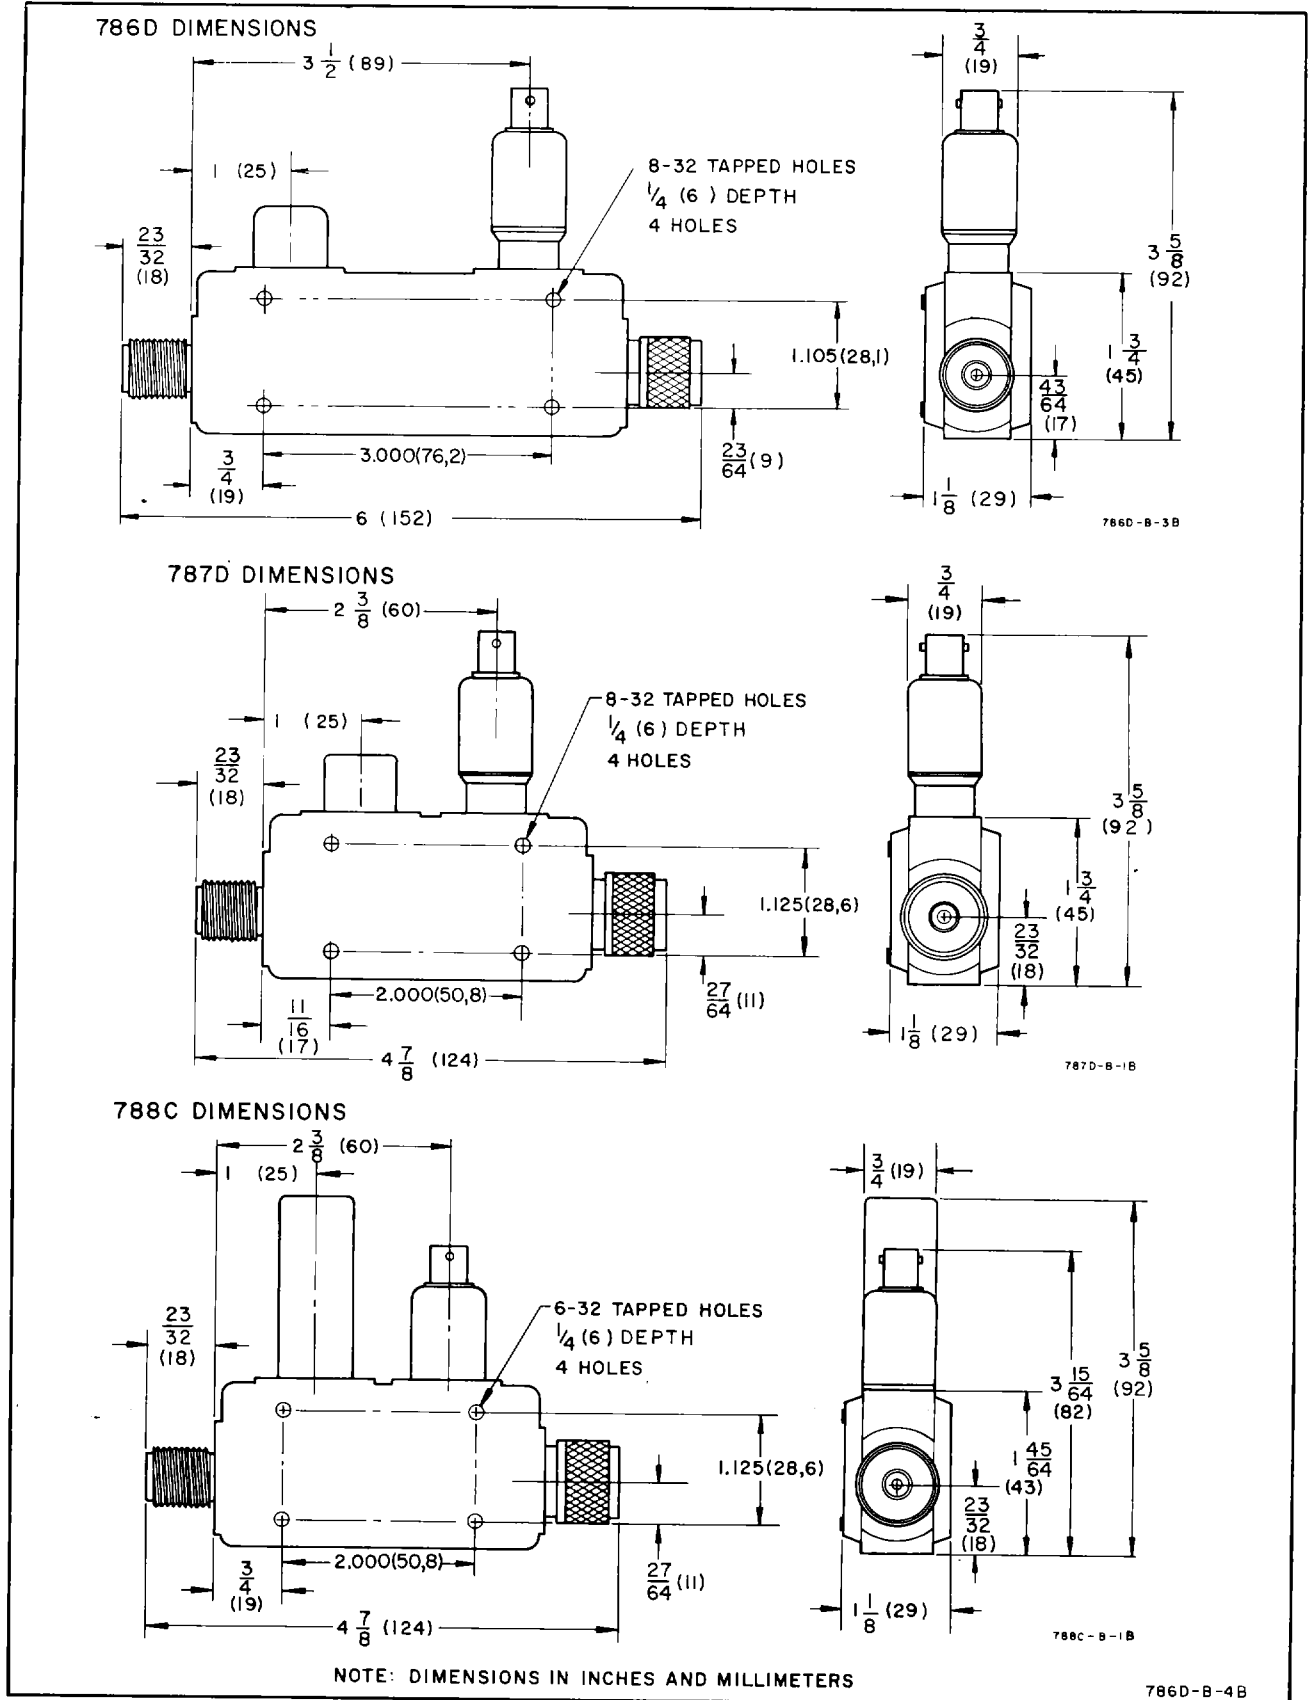

Figure 2. Outside Dimensions
<p>Noise: Less than 200 μv peak-to-peak with CW power applied to produce 100 mv output</p> <p>Detector Output Polarity: Negative</p> <p>Detector Output Connector: BNC female</p> <p>Detector Output Impedance: 15K max shunted by about 10 pf</p> <p>Detector Element: Supplied</p> <p>RF Connectors⁵: ϕ precision type N, one male (input), one female</p> <p>Size: Refer to Figure 2</p>	<p>Net Weight:</p> <p>786D - 16 oz (450 g)</p> <p>787D - 12 oz (340 g)</p> <p>788C - 12 oz (340 g)</p> <p>Options:</p> <p>02. Furnished ϕ 11523A load resistor for optimum square-law characteristics at 24°C (75°F), ± 0.5 db variation from square-law for outputs up to 50 mv peak (working into an external load $> 75\text{K}$). Sensitivity when load is used is typically $> 1 \mu\text{v}/\mu\text{w}$ CW for 786D and 787D, and $> 10 \mu\text{v}/\mu\text{w}$ CW for 788C.</p> <p>03. Positive polarity detector output.</p>
10. The directional detector is useful as the sampling and detection device in closed-loop leveling setups as described in Paragraph 16. It can also be used as a calibrated power monitor by determining the correlation between detected output and main-line RF output levels, or for relative RF envelope observation with an oscilloscope. If the directional detector is to be permanently mounted for any application, refer to Figure 2, which illustrates the location of the four mounting holes and the general side dimensions. Before installing in any setup, the following should be considered: